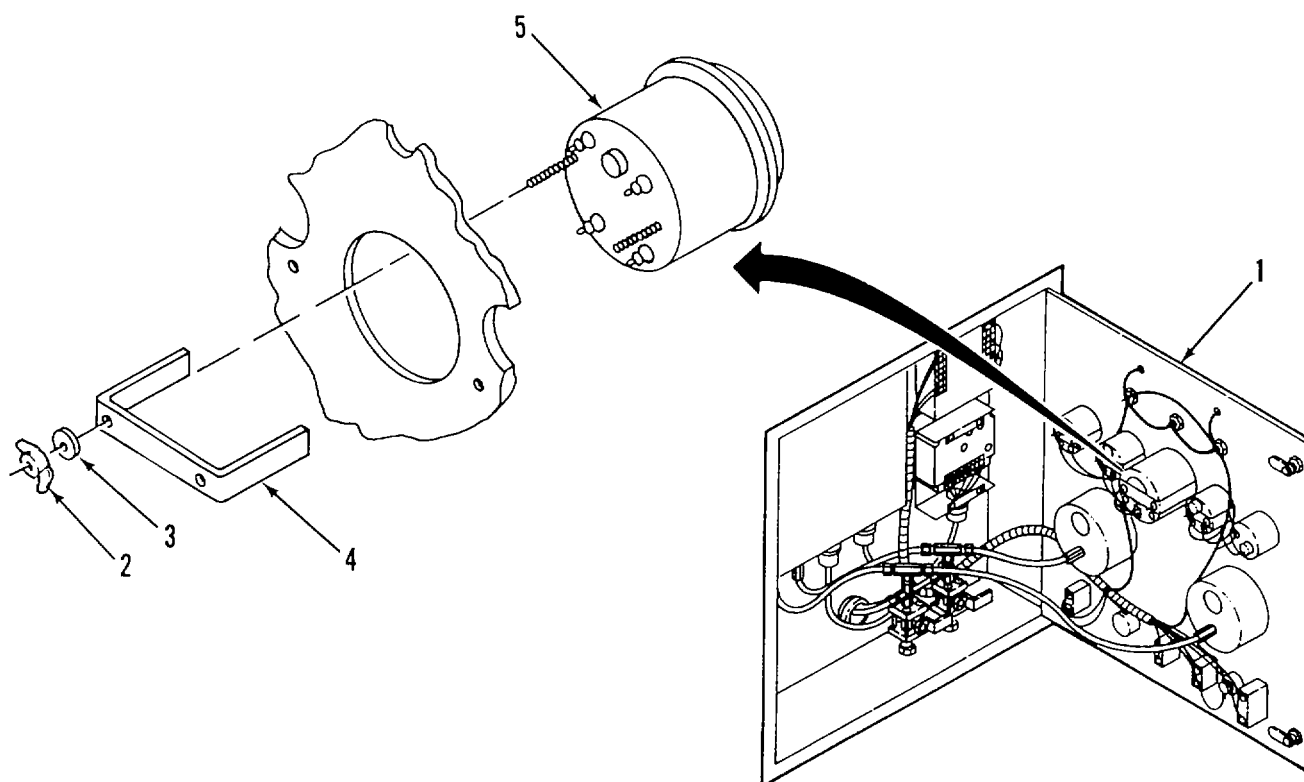

Figure 2-8. Tachometer/Run Time Meter
a. REMOVE. (Figure 2-8)
- (1) Open control panel door (1).
- (2) Remove wire ties.